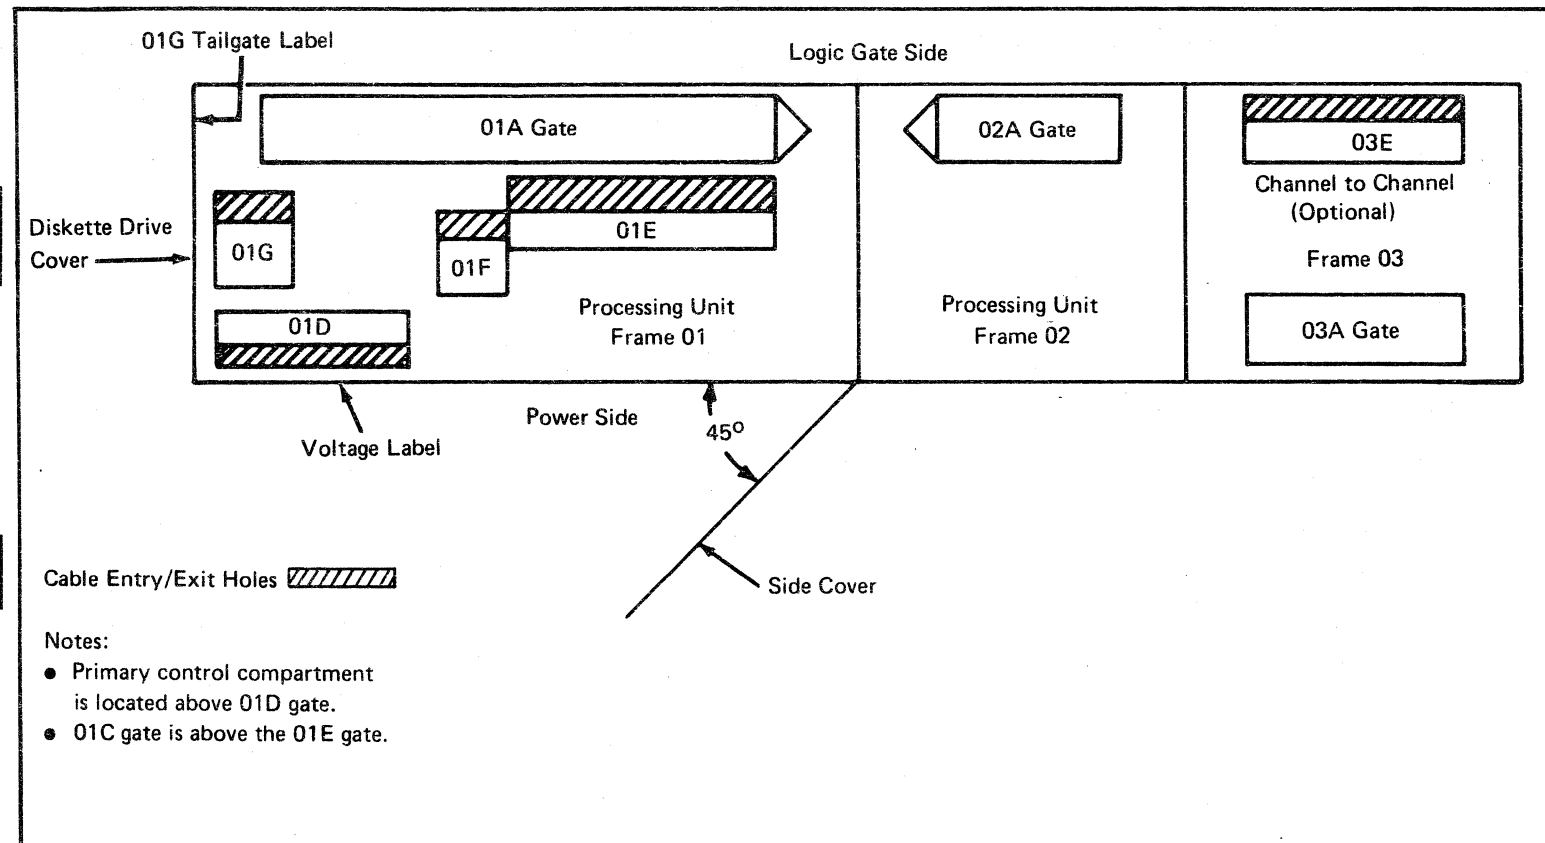

FIGURE 1 - Locations (Top View)
- The cable entry/exit holes shown in Figure 1 represent locations on the machine and do not represent or require a corresponding hole in the floor for subfloor installations. Cables from more than one cable entry/exit hole may be routed through one hole in the floor.
- If this is a Remote Support Facility machine, another box contains the RSF external cable or the RSF cable is already installed in the 01G tailgate. For location of the 01G tailgate, see Figure 1 on page 48 020.
8. Check the voltage label (see Figure 1) on the cover of the primary control compartment (PCC) box to ensure that system and input power are the same. If they do not match, see YA015 to make the correct wiring adjustment, or invoke your support structure.
1. Open the covers to an angle of 45 degrees (Figure 1).